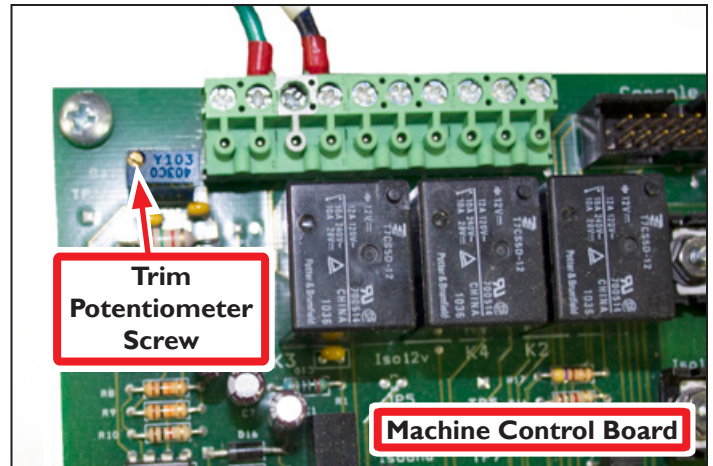

Figure 7
3. Using a small flat-bladed screwdriver, turn the Trim Potentiometer Screw on the machine control board (see **Figure 7**) to adjust spindle speed.